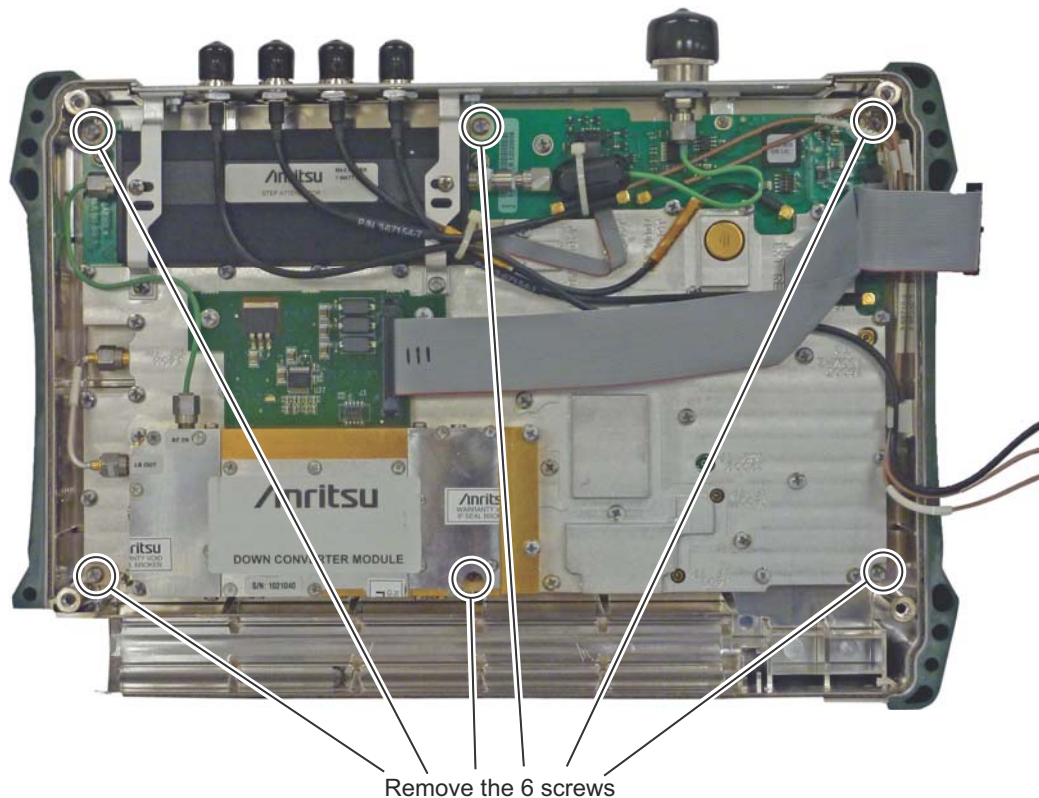

Figure 5-5. Spectrum Analyzer PCB Assembly
2. Use a Phillips screwdriver to remove the six screws securing the Spectrum Analyzer Module Assembly to the back half of the instrument case (Figure 5-5).